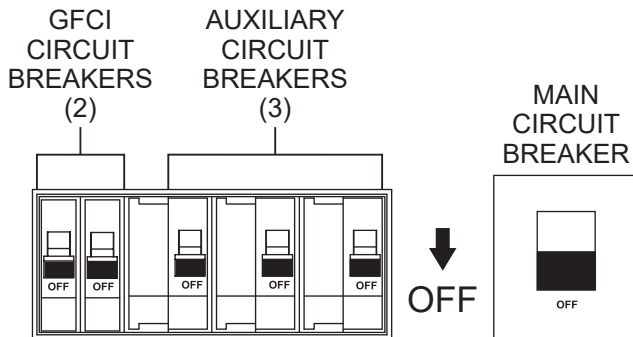

Figure 55. Main, Auxiliary, And GFCI Circuit Breakers (OFF)
1. Place the **main, auxiliary, and GFCI circuit breakers** in the **OFF** position as shown in Figure 55.
2. Place the **main, auxiliary, and GFCI circuit breakers** in the **OFF** position as shown in Figure 55.